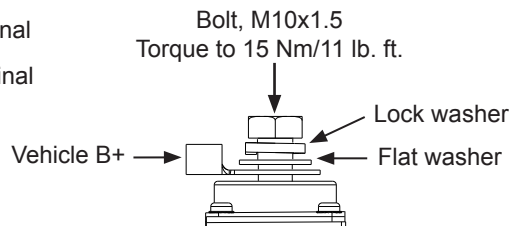

Figure 2: B+ Terminal Hardware Stacking Order
5. Connect vehicle B+ cable to alternator B+ terminal. Install mounting hardware in stacking order shown in Figure 2. Torque hardware to 15 Nm/11 lb. ft.